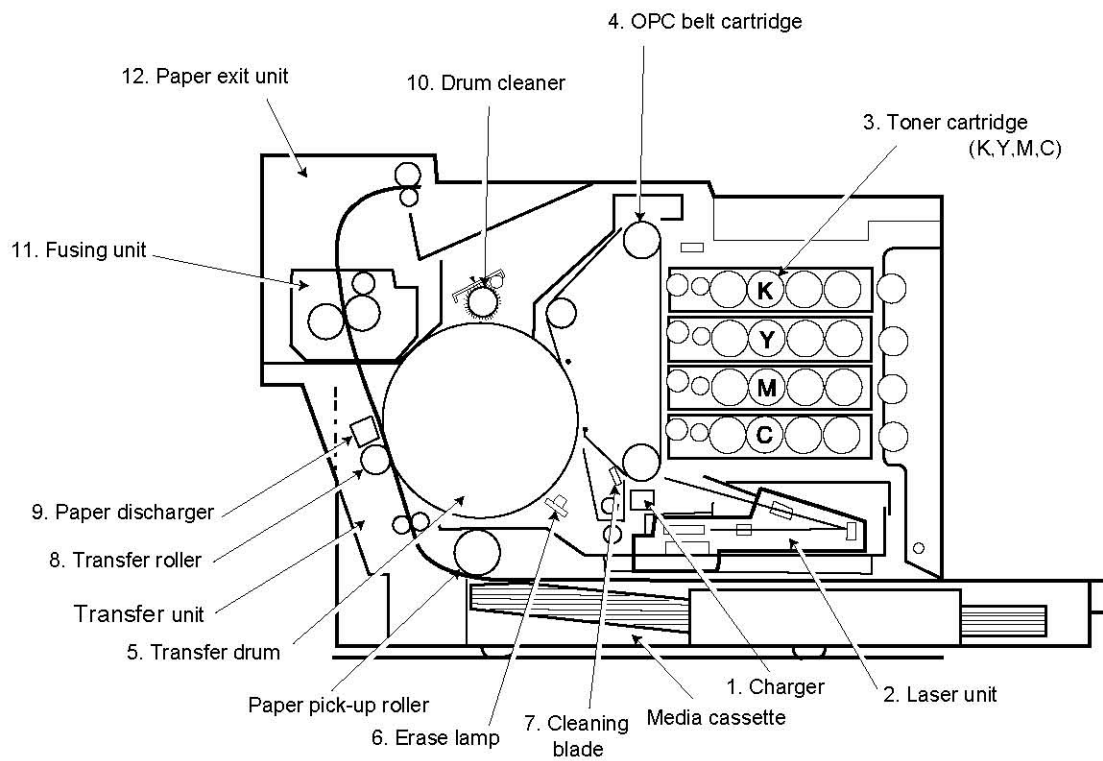
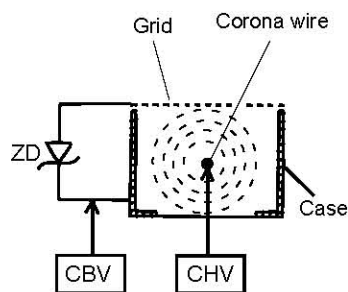

Fig. 4-8
Fig. 4-11
- (1) Structure of the charger unit (Refer to Fig.4-8 and Fig.4-11)
- i) The charger unit is located as shown in Fig.4-8.
- (1) Structure of laser unit
- i) The laser unit is located as shown in Fig.4-8.
- (1) Structure of the Toner Cartridge (Refer to Fig.4-8 & 4.14.)
- i) The toner cartridge is located as shown in Fig.4-8.
- (2) Process of Developing (Refer to Fig.4-8, 4-14, 4-15, and 4-16)
- (1) Structure of the Transfer Drum (Refer to Fig.4-8.)
- i) The drum is located as shown in Fig.4-8.
- (1) Structure of Erase Lamp
- i) The erase lamp is located as shown in Fig. 4-8.
The blade for the belt cleaning is located relative to the OPC belt cartridge as shown in Fig.4-8.